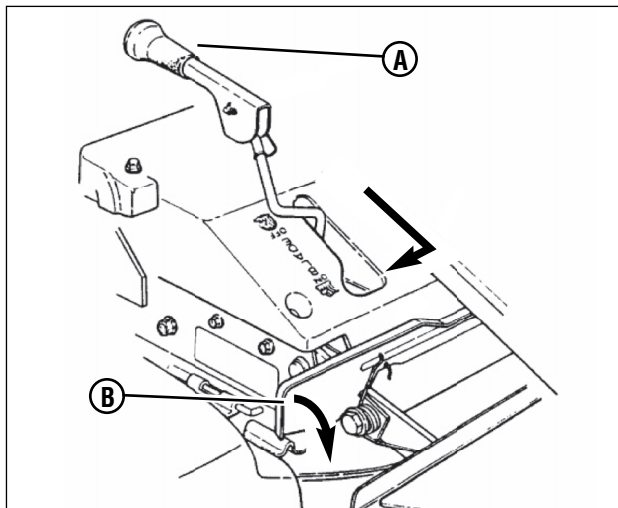

Figure 10: Engaging the mower blade
2. Move the blade lever (A, Figure 10) forward to the “ON” position, then depress the blade pedals (B) to hold the blade lever in the “ON” position.